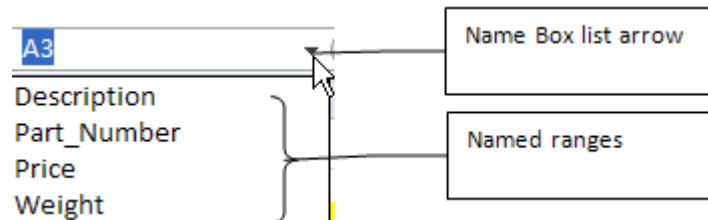

Figure 8.18. Range names display in Name Box list.
4. Click OK. Click the Name Box list arrow to display the list of named ranges as shown in Figure 8.18, and then click Description to confirm that the range B4:B53 is named Description. The range of cells that has been named shows as being selected.